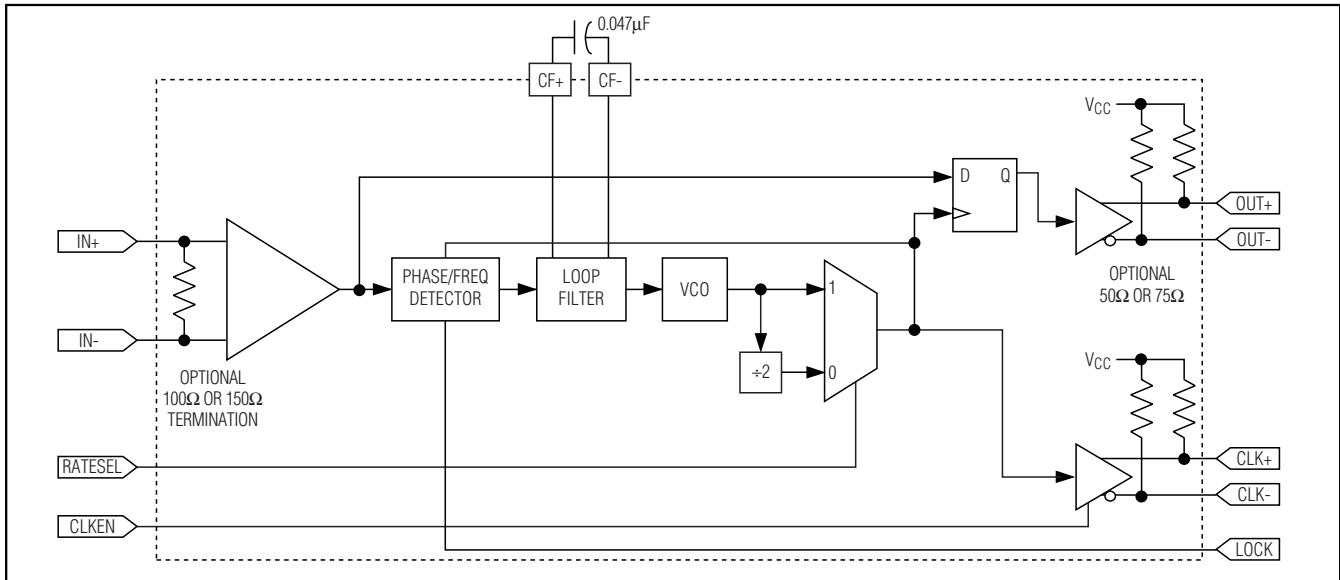

Figure 2. Block Diagram
Figure 2 shows the functional block diagram of the MAX3772–MAX3775 fibre channel repeaters. They consist of a fully integrated PLL, CML input and output buffers, and a data latch. The PLL consists of a combined phase detector (PD) and frequency detector (FD), a loop filter, and a voltage-controlled oscillator (VCO). The input and output signal buffers employ low-noise CML architecture and are terminated on-chip.